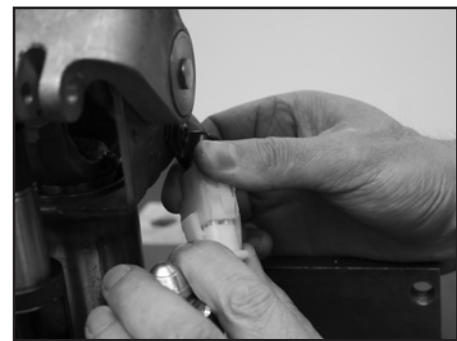

Figure 1
2. Unplug actuator from wire harness. **Figure 1**